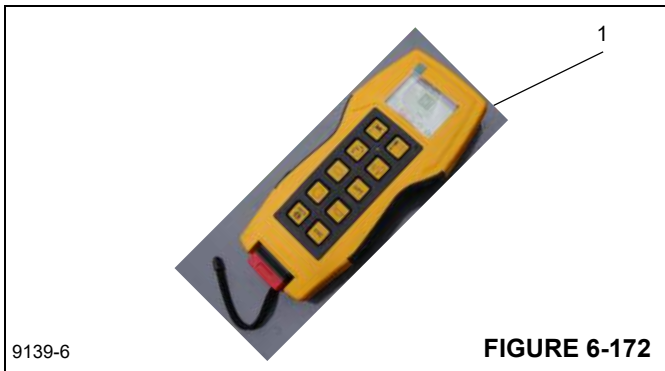

FIGURE 6-172
8. See the remote controller *Remote Control Operation*, page 3-105 for operation and also reference (1), (Figure 6-172) to fully retract the luffing cylinder.
9. Using the remote, (1), (Figure 6-172) engage pin #2 (1), (Figure 6-167) with the extension and lug.